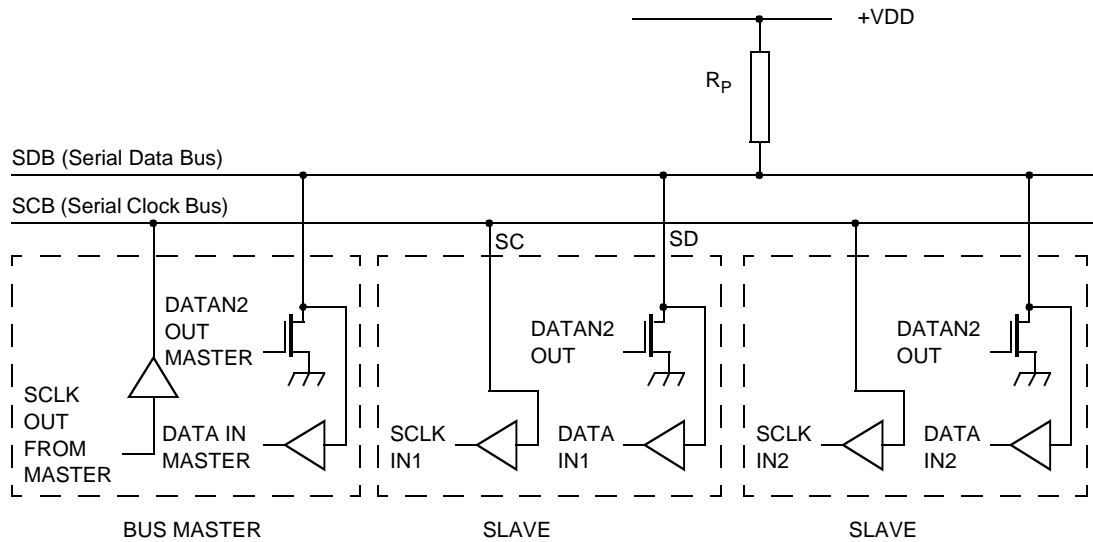

Figure 17: Connection of Devices to the Bus
The CH7002 contains a standard I²C control port, through which the control registers can be written and read. This port is comprised of a two-wire serial interface, pins SD (bi-directional) and SC, which can be connected directly to the SDB and SCB buses as shown in **Figure 17**.
The Serial Clock line (SC) is input only and is driven by the output buffer of the master device (also shown in Figure 17). The CH7002 acts as a slave, and generation of clock signals on the bus is always the responsibility of the master device. When the bus is free, both lines are HIGH. The output stages of devices connected to the bus must have an open-drain or open-collector to perform the wired-AND function. Data on the bus can be transferred up to 400 kbit/s.
The electrical specifications of the bus devices' inputs and outputs and the characteristics of the bus lines connected to them are shown in **Figure 17**. A pull-up resistor (R_p) must be connected to a 5V +/- 10% supply. The CH7002 is a device with input levels related to VDD.